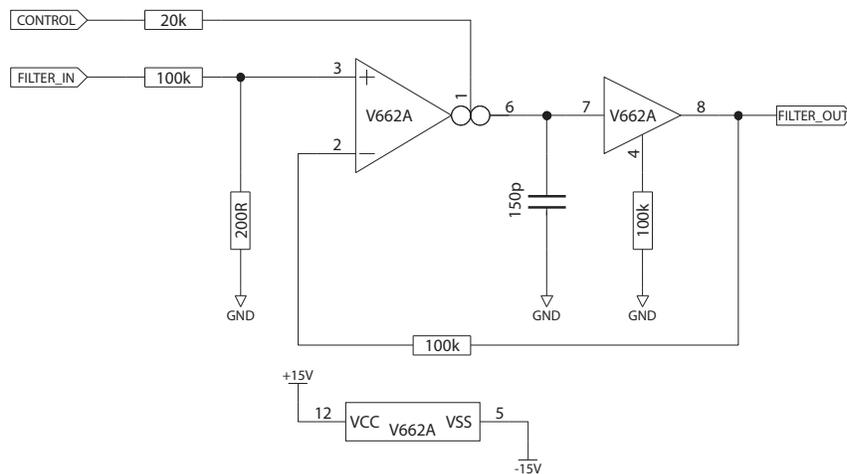

Fig.6 Voltage control low pass filter
- 2) Fig. 6 shows a low pass filter as an example of an application of the V662A. The cutoff frequency f_o can be altered by changing the Pin 1 control current. The cutoff frequency f_o is expressed as: